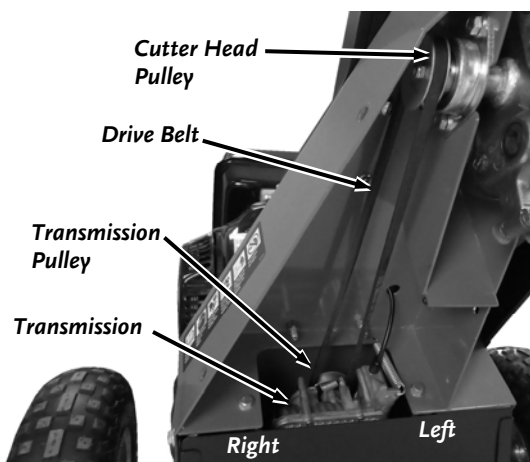

Figure 37
**Note:** Pay close attention the routing of the Belt before you remove it so you will reinstall it correctly (Figure 37).
**Note:** The left and right sides mentioned in the next step (and in Figure 37) refer to the operating position when you standing at the Handlebars.